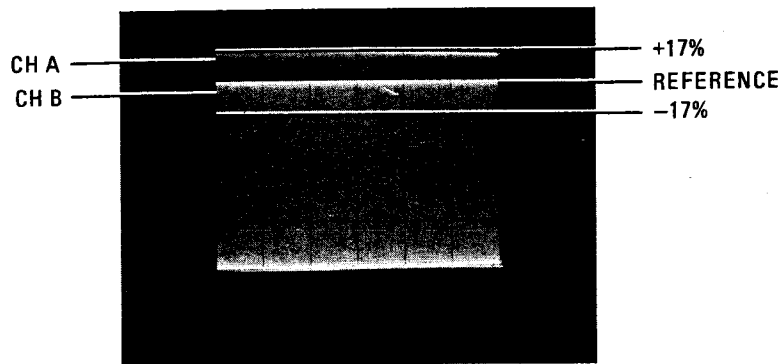

Figure 4-23. FM Frequency Response Waveform
1. Using vertical POSITION controls of oscilloscope, adjust the two superimposed waveforms so that they are aligned at the bottom edge at point measured. (See Figure 4-23.) CH A waveform should not be more than 8 minor divisions higher or 6 minor divisions lower than CH B waveform. This indicates approximately +41, -29 percent, or ± 3 dB, since four major divisions represent 100 percent and each minor division represents 5 percent.
- o. Using vertical POSITION controls of oscilloscope, adjust the two superimposed waveforms so that they are aligned at the bottom edge at point measured. (See Figure 4-23.) CH A waveform should not be more than 3-1/2 minor divisions higher or lower than CH B waveform. This indicates approximately ± 17 percent, or ± 1.5 dB, since four major divisions represent 100 percent and each minor division represents 5 percent.